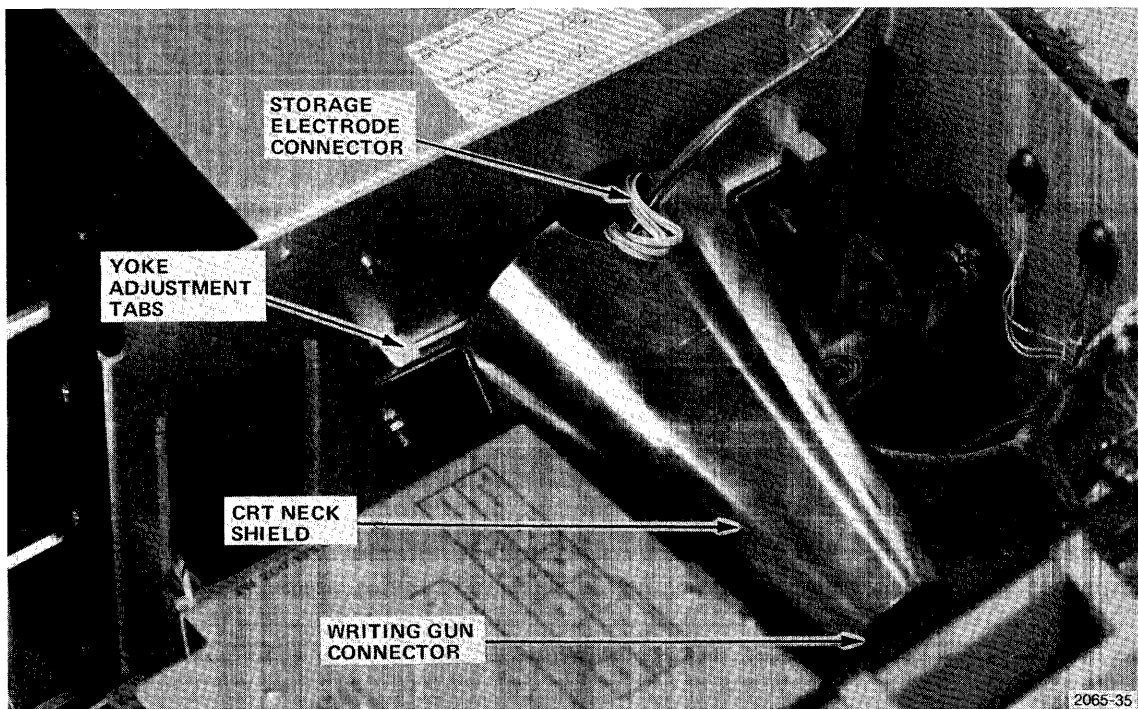

Fig. 3-17. CRT neck shield, crt electrodes and yoke adjustment assembly.
2. Remove the writer gun connector from the base of the crt's neck (Fig. 3-17).
11. Remount the neck shield to the deflection adjustment assembly with the two nuts provided (Fig. 3-17).